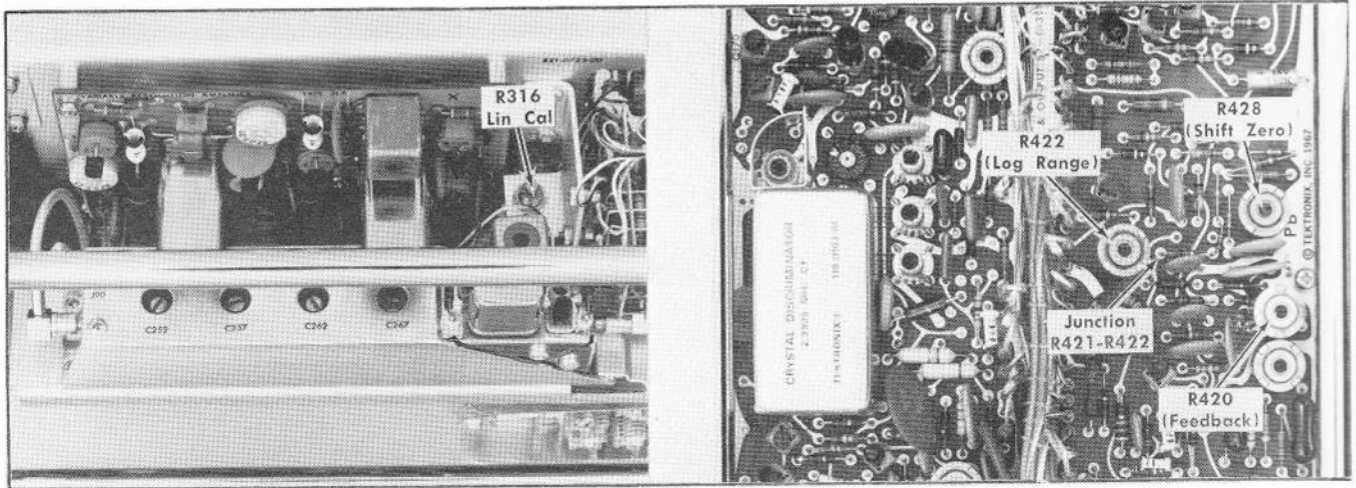

Fig. 6-14. Location of LIN-LOG calibration adjustments.
- e. Disconnect the test oscilloscope from the "T" connector and connect the test oscilloscope through a 10× probe to the detector output (junction of D420-R421-R422, Fig. 6-14). Set the test oscilloscope Time/cm to the same sweep rate as the analyzer time-base unit.
- f. Adjust Lin Cal R316, (Fig. 6-14) for a signal amplitude of about 40 volts at the detector output. (This is not critical, 40 V ± 5 V is satisfactory.) Remove the test oscilloscope probe.
- g. Adjust R422 (Fig. 6-14) for a signal amplitude of 7 divisions on the analyzer LIN mode display. Center the display with the VARIABLE CENTER FREQUENCY control or the signal generator frequency control.
j. Adjust R428 and R422 (Fig. 6-14) for a signal with an amplitude of 8 divisions and optimum skirt symmetry as illustrated in Fig. 6-15A. R422 affects the slope and symmetry and R428 the signal amplitude. The display baseline reference will shift as these adjustments are performed, therefore, the baseline must be repositioned to measure signal amplitude. Distortion or non-symmetry at the base of the display may be caused by incorrect adjustment of the resolution bandwidth. Recheck the adjustment of C323 and C343.